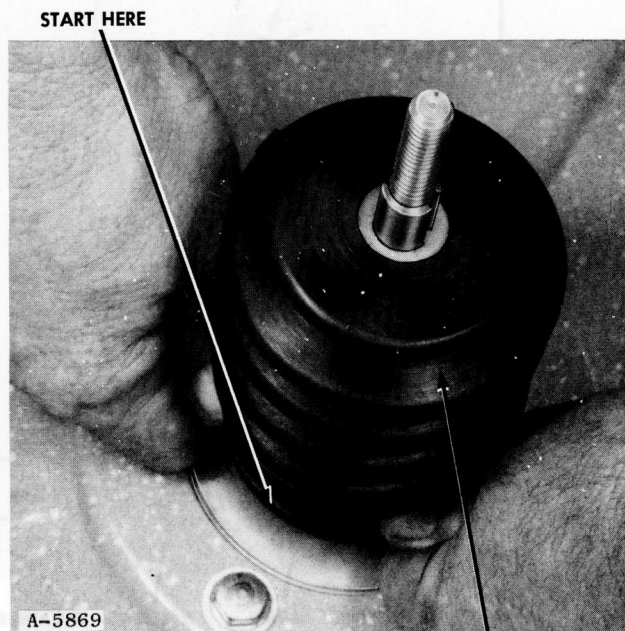

Figure 72
1. If the removed bellows is to be reinstalled, stretch the bellows and check between each fold for holes or wear. Check the formation at the top of the bellows for distortion. If the bellows is not perfect, discard it and install a new one. Figure 72.
If the removed bellows is to be reinstalled, stretch the bellows and check between each fold for holes and wear. If the bellows is not in perfect condition, discard it and install a new one. Figure 72.
3. Remove both water seal and inner seal bellows. Figure 72.